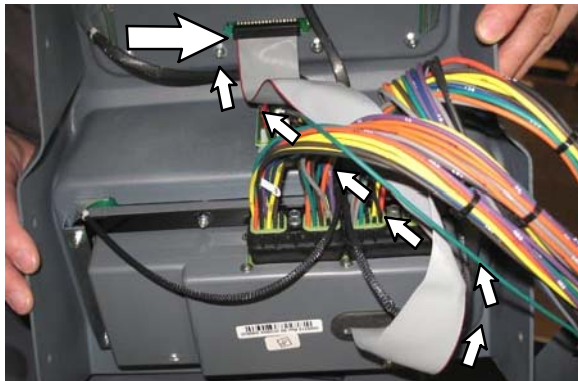

FIG. 4
8. Twist and connect the instrument panel (1) ribbon cable to the touch panel. Note location of red tracer on ribbon cable. Refer to Fig. 4.